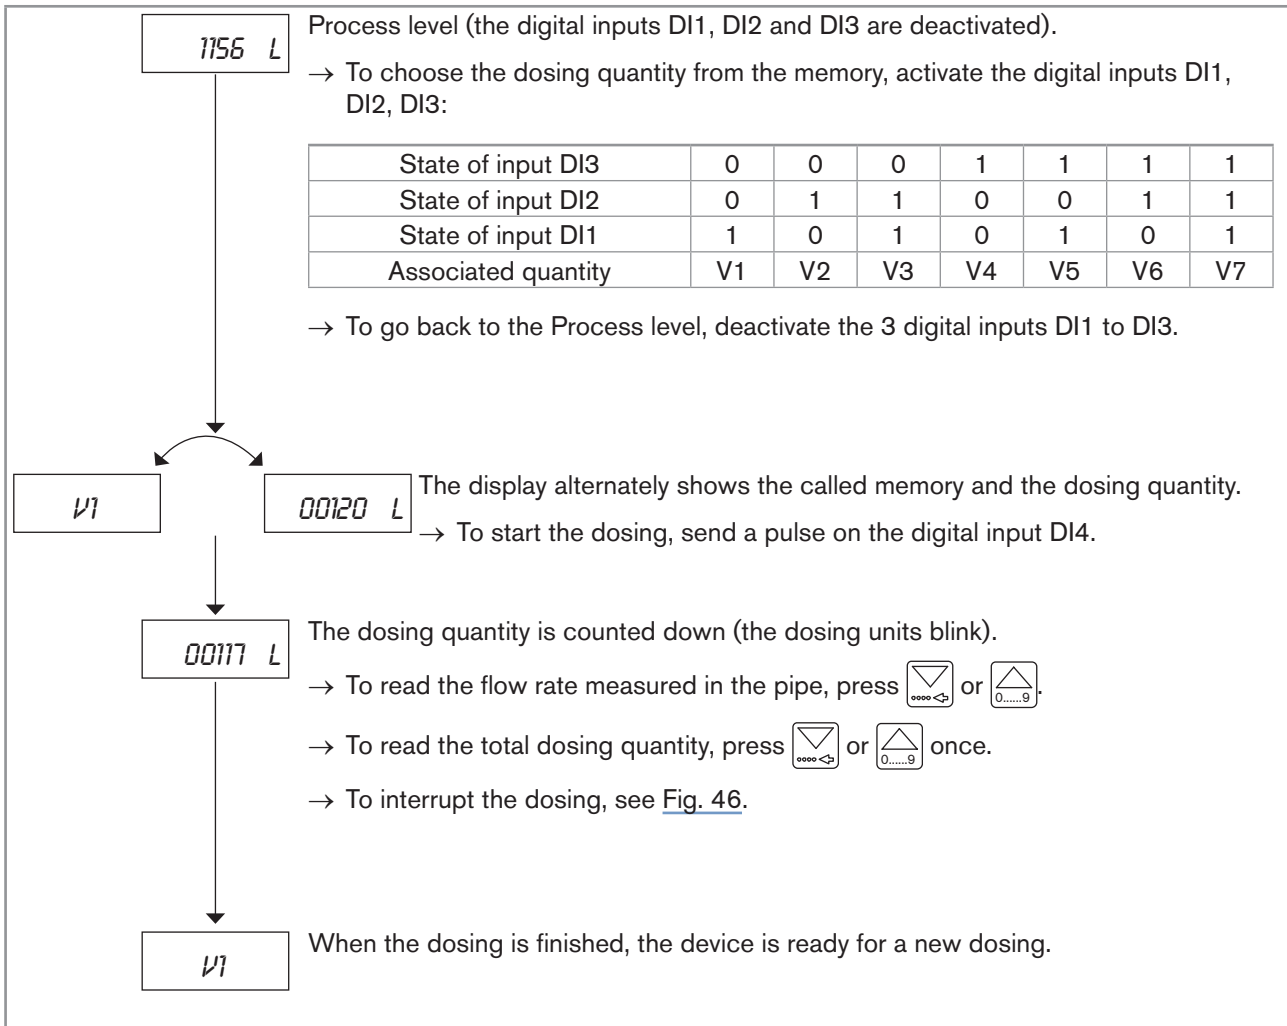

Fig. 45 : Doing a dosing of a quantity from the memory, in dosing mode "EXT. MEM."
→ Do a dosing as shown in Fig. 45.
- the digital inputs DI1 to DI3 allow for selecting one of the 7 dosing quantities, entered into the device memory (see Fig. 45, chap. 10.6.3). If all the 7 dosing quantities are not used, only connect the necessary inputs. When a dosing has been interrupted, the digital inputs allow for the navigation within the pause menu, between the function "CONTINUE" and the function "RESET". If the dosing quantity is selected via the navigation keys and no dosing will be remotely aborted, inputs DI1 to DI3 can be left unconnected.